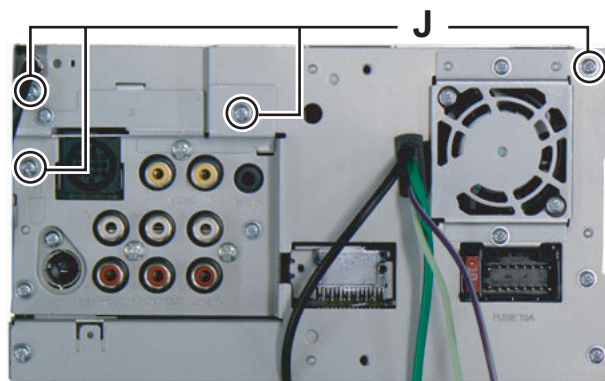

Fig.8
(4) Remove the four screws **J** attaching the Top chassis. (See Fig.8)